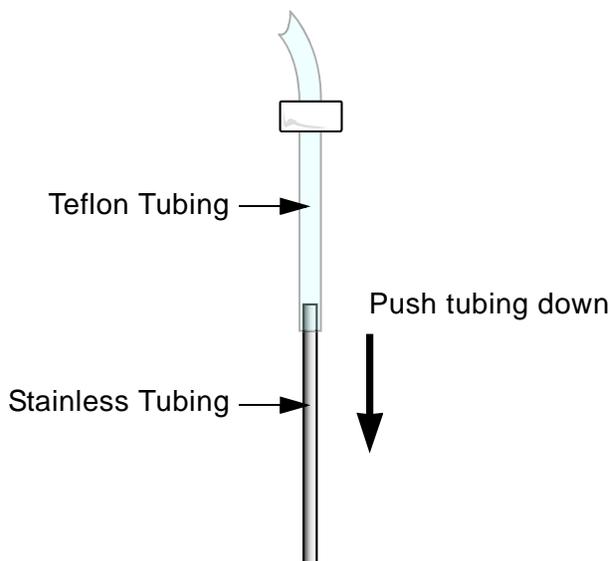

Figure 78. Teflon Tubing Installation
- 2 Carefully, without developing kinks in the tubing, push the Teflon tubing end downward, over the top of the stainless tubing, as shown in Figure 78.